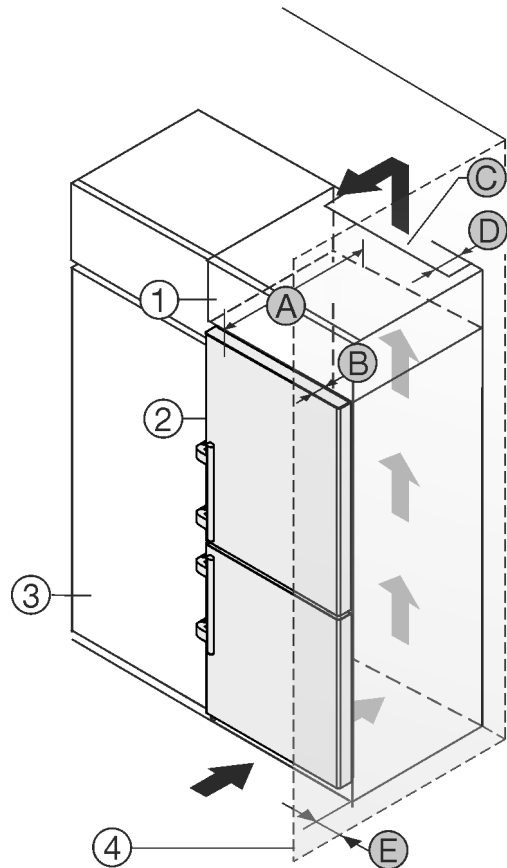

Fig. 47
The appliance can be built into kitchen units. A top cupboard Fig. 47 (2) can be added above the appliance Fig. 47 (1) in order to bring the appliance Fig. 47 (1) up to the height of the fitted kitchen units.
If the appliance is positioned directly next to a kitchen cabinet *Fig. 47 (3)*, a distance of at least 5 cm from the appliance is necessary. The appliance must protrude by the depth *Fig. 47 (B)* from the front of the cabinet so that the doors can be opened fully. The appliance may protrude further depending on the depth of the kitchen cabinets and whether wall spacers are used.
- At the back of the top cabinet, there must be an air outlet shaft with depth *Fig. 47 (D)*, spanning the entire width.
- The ventilation shaft *Fig. 47 (C)* must be observed under the ceiling.
If the appliance is installed with the hinges next to a wall *Fig. 47 (4)*, the distance *Fig. 47 (E)* between the appliance and the wall must be observed. This is how far the handle protrudes when the door is open.